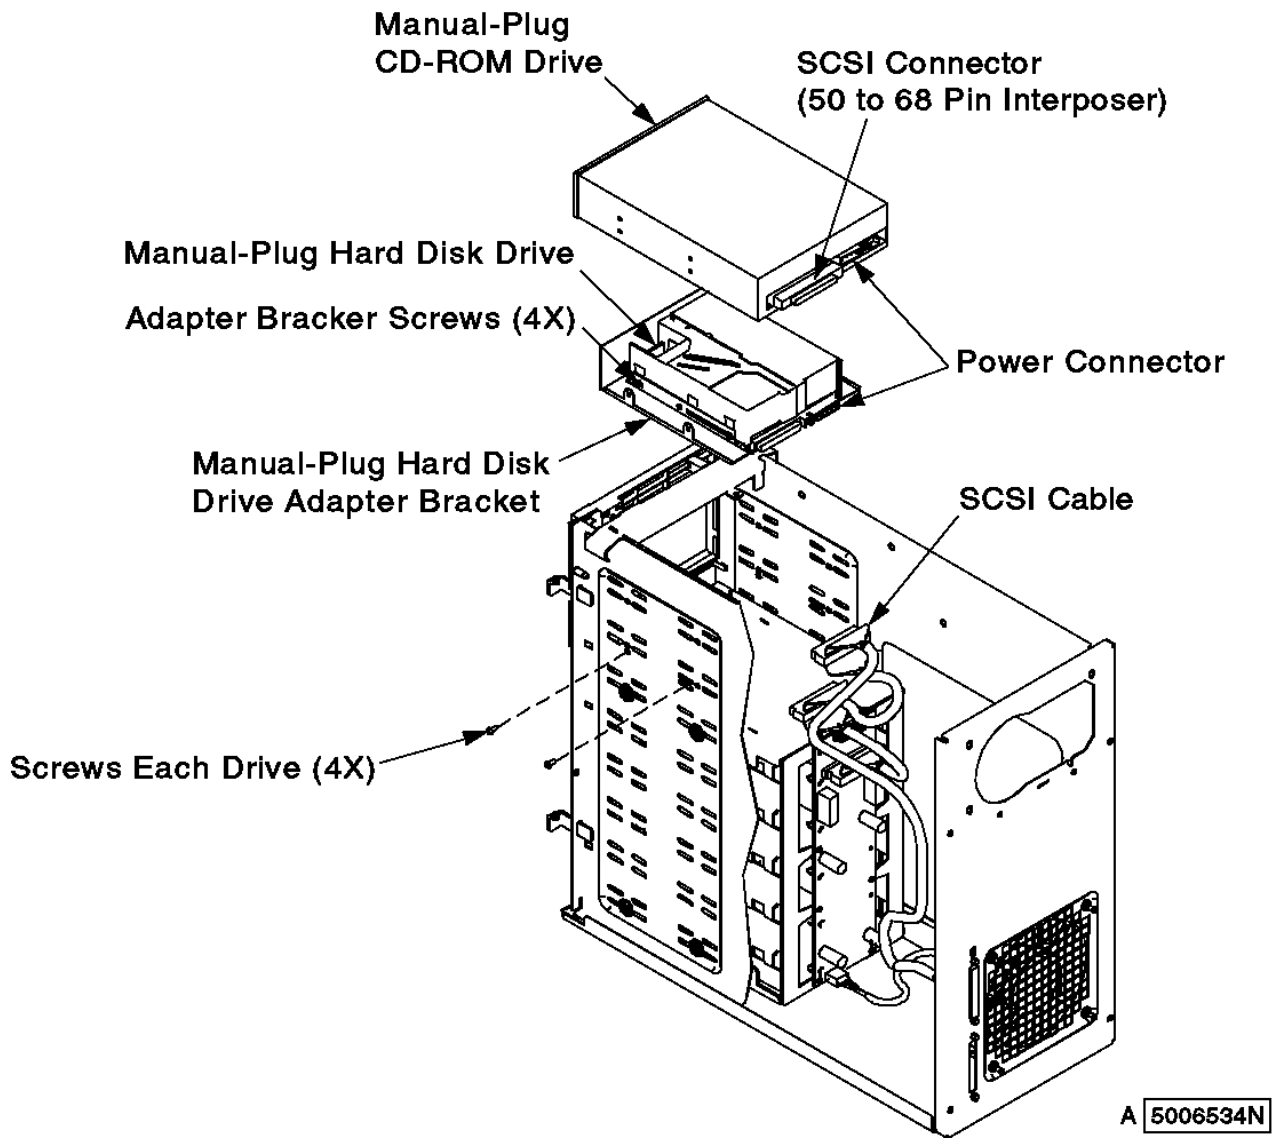

Figure 5-22. SCSI Cable Connections and Screw Locations for Manual-Plug Devices
10. Connect the SCSI cable and the power connector to the hard disk drive and the CD-ROM and tape drives (Figure 5-22).